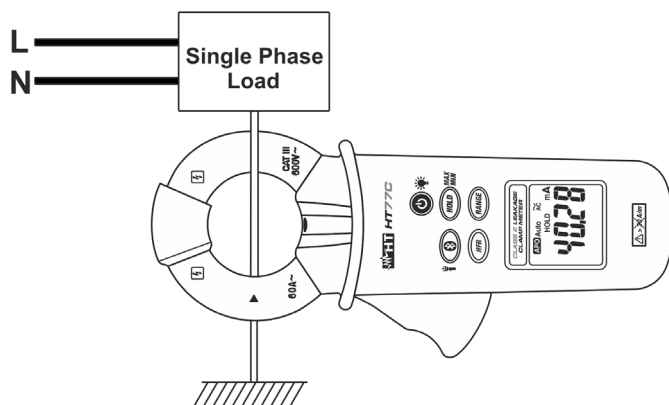
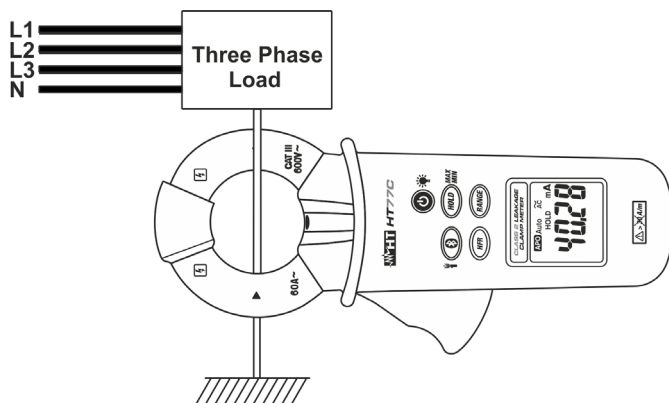

Fig. 4: Measuring leakage current with direct method in a single phase load
Fig. 6: Measuring leakage current with direct method in a three phase load
2. Open the clamp jaw and connect the clamp as shown in Fig. 4 or Fig. 6. The leakage current value will be shown on the display